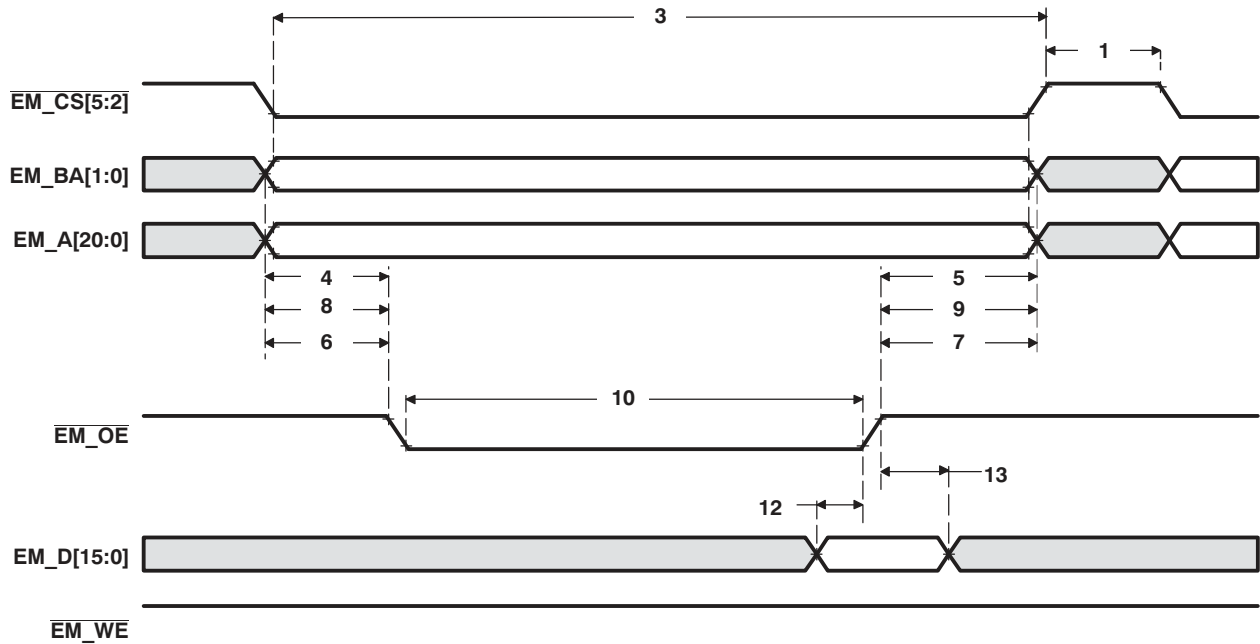
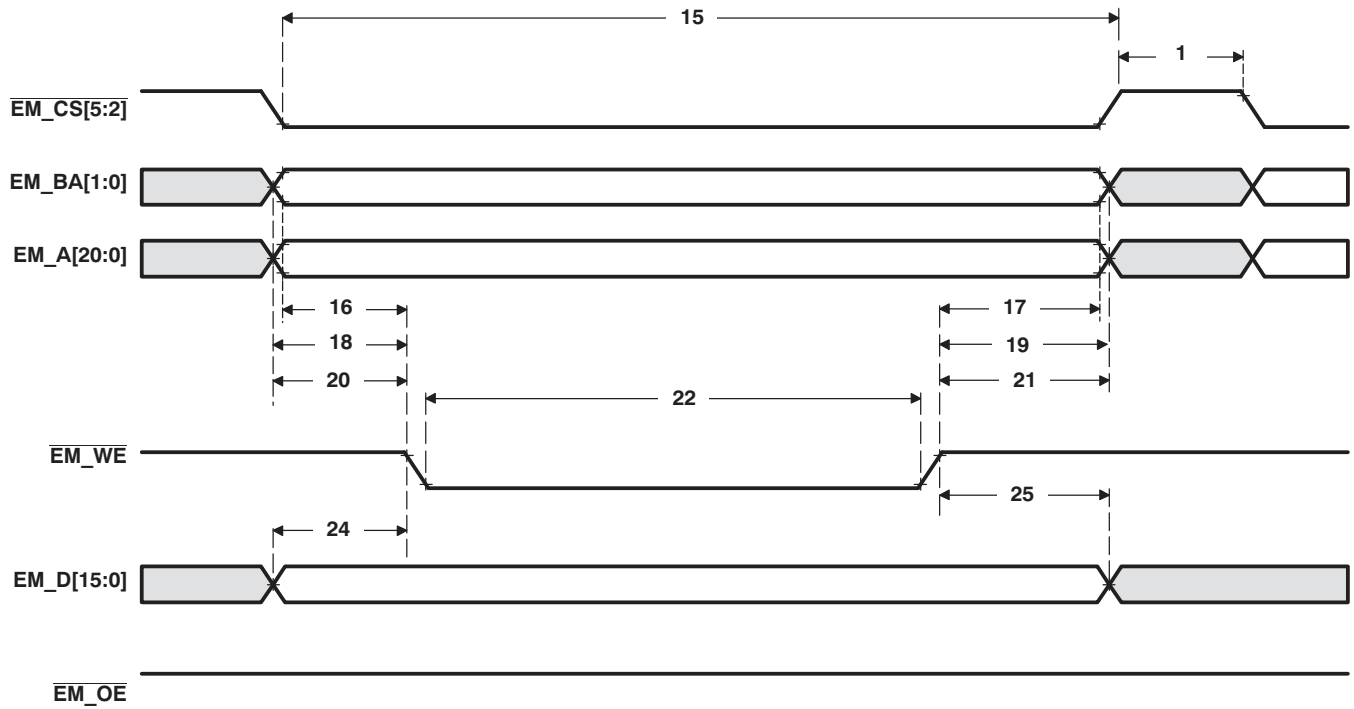
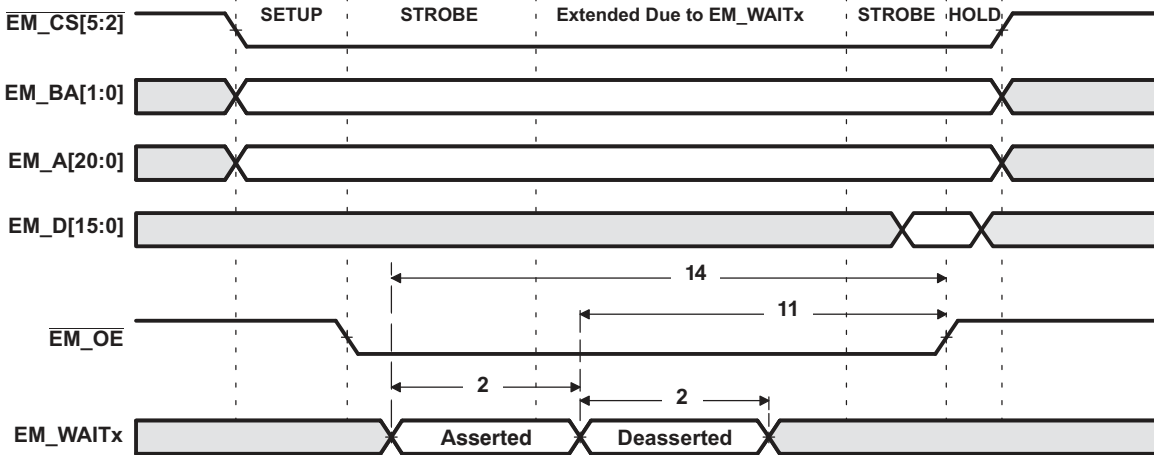
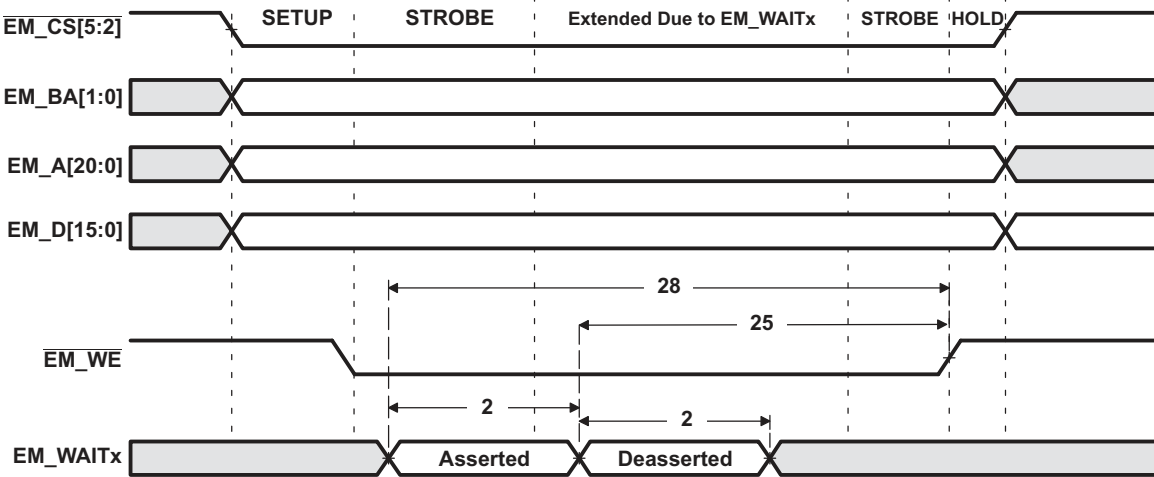

Figure 6-14. Asynchronous Memory Read Timing for EMIF
Figure 6-15. Asynchronous Memory Write Timing for EMIF
Figure 6-16. EM_WAITx Read Timing Requirements
Figure 6-17. EM_WAITx Write Timing Requirements
Table 6-12. Switching Characteristics Over Recommended Operating Conditions for EMIF Asynchronous Memory^{(1) (2)} (see Figure 6-15 and Figure 6-17)⁽³⁾
Table 6-12. Switching Characteristics Over Recommended Operating Conditions for EMIF Asynchronous Memory ⁽¹⁾ ⁽²⁾ (see Figure 6-15 and Figure 6-17) ⁽³⁾ (continued)
Table 6-13. Timing Requirements for EMIF Asynchronous Memory⁽¹⁾ (see Figure 6-14, Figure 6-16, and Figure 6-17)
- (1) E = SYSCLK period in ns, if EMIF is set for "full rate" **or** E = SYSCLK/2 period in ns, if EMIF is set for "half rate" as defined by bit 14 of the EMIF Status register (0x1001h). For example, when EMIF is set to full rate and SYSCLK is selected and set to 100 MHz, E = 10 ns.
- (2) Setup before end of STROBE phase (if no extended wait states are inserted) by which EM_WAITx must be asserted to add extended wait states. Figure 6-16 and Figure 6-17 describe EMIF transactions that include extended wait states inserted during the STROBE phase. However, cycles inserted as part of this extended wait period should not be counted; the 4E requirement is to the start of where the HOLD phase would begin if there were no extended wait cycles.
Table 6-14. Switching Characteristics Over Recommended Operating Conditions for EMIF Asynchronous Memory^{(1) (2) (3)} (see Figure 6-14, Figure 6-16, and Figure 6-17)
Table 6-14. Switching Characteristics Over Recommended Operating Conditions for EMIF Asynchronous Memory ⁽¹⁾ ⁽²⁾ ⁽³⁾ (see Figure 6-14 , Figure 6-16 , and Figure 6-17) (continued)